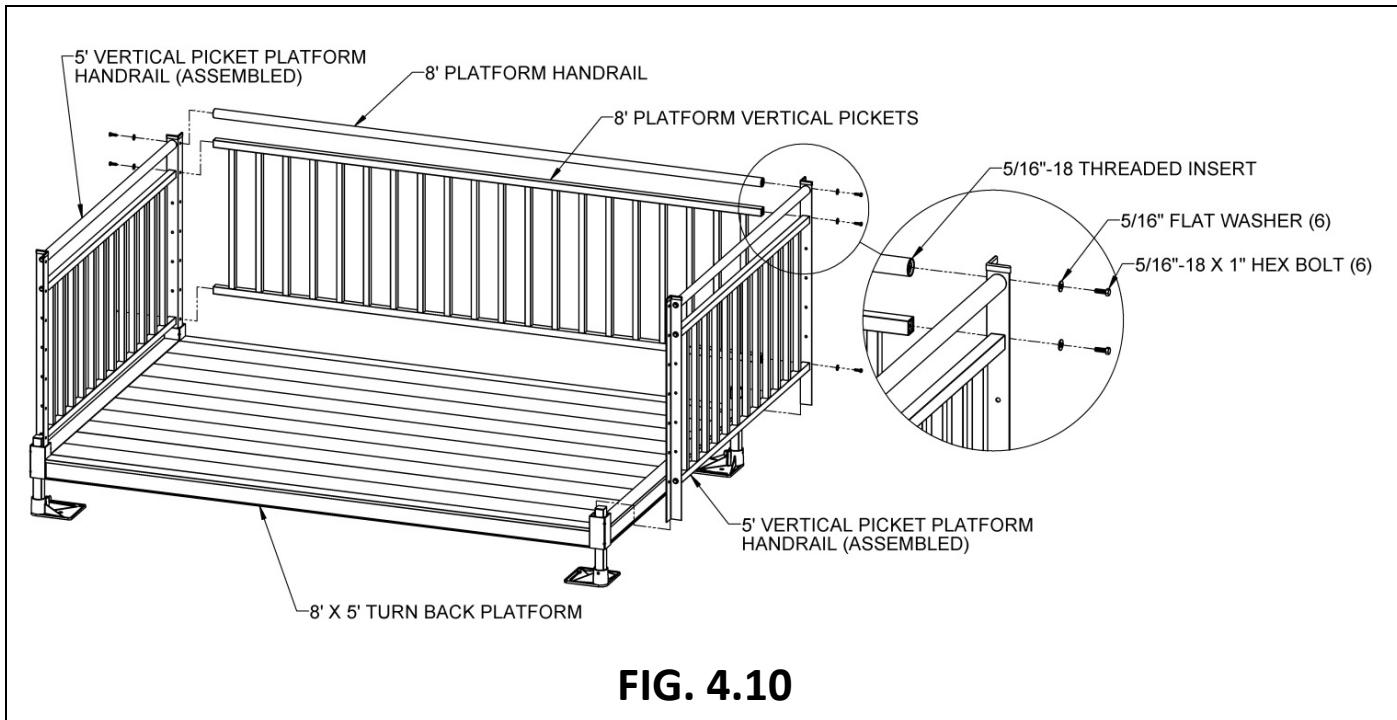

FIG. 4.10
- 4.5.4. 8' platform Vertical Picket handrails are assembled in a similar manner (FIGs. 4.10 and 4.11).